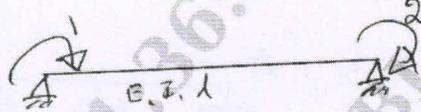

Fig. Q3 (a)
- 3 a. Develop element stiffness matrix for the beam shown in Fig. Q3 (a).